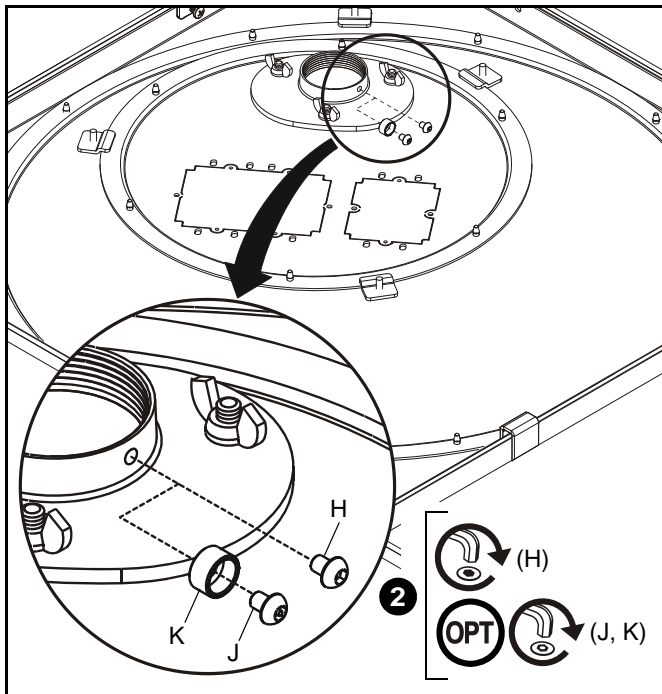

Figure 11
2. Using hex key (L), secure extension column by *one* of the following methods (See Figure 11):
- Install screw (H) into extension column support, tightening firmly against column.
- **OPTIONAL:** Install security screw (J) through locking collar (K) into extension column support, tightening firmly against column.